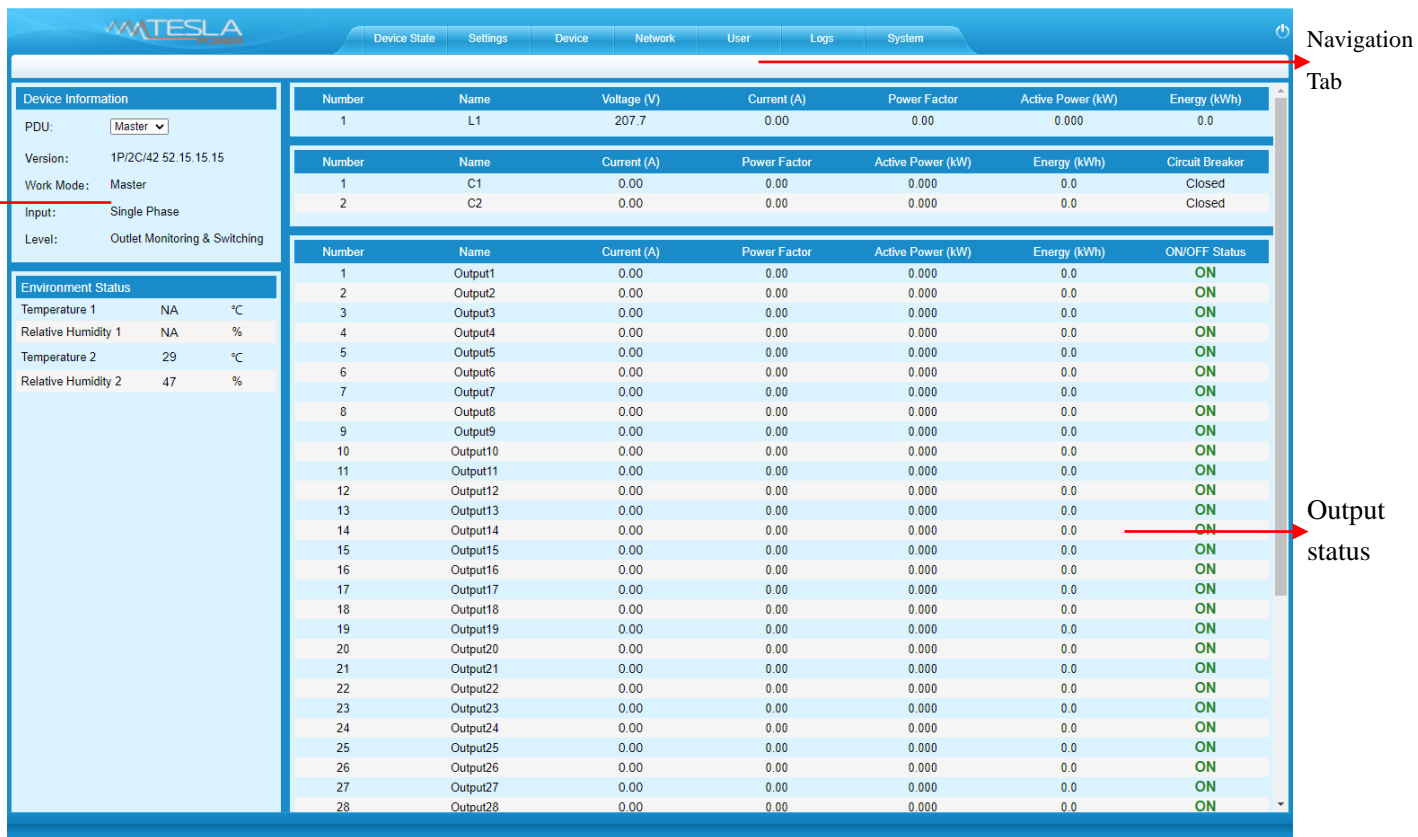

Figure 1-3
The main interface will appear as figure 1.3 if you entered the correct Username and Password.
A. Device Status: After enter Figure 1-3 you can view the monitoring information as below:
B. Device Settings: Click the Settings tab to enter Figure 1-3 to configure thresholds of input voltage, input current, individual outlet current, temperature, humidity. And configure values for power On/Off delay of Individual outlet, power consumption return to zero and outlet switching.